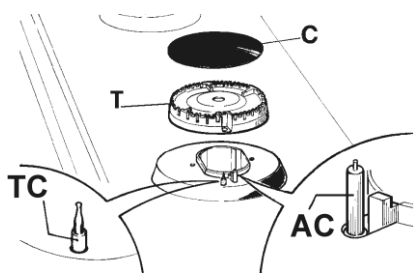

Fig. 10
- Periodically wash the hot plate, the enameled steel pan support, the enameled burner caps "A", "B" and "C" and the burner heads "T" (see fig. 10 and 11) with lukewarm soapy water. Also clean plugs "AC" and flame detection "TC" (see fig. 10). Clean them gently with a small nylon brush as shown (see fig. 12) and allow to dry fully.